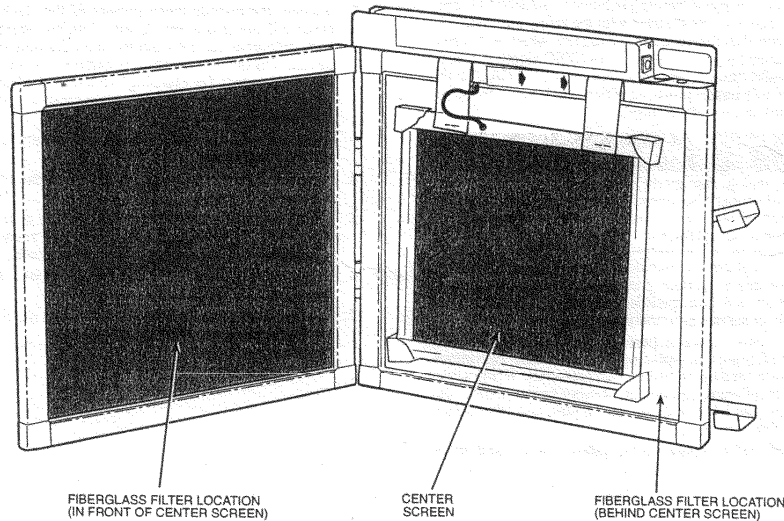

Fig. 2 — Filter Replacement
5. Place two new media pads on either side of the center screen. See Fig. 2. Be sure the pads fit squarely into the outside retainer screens. Discard old pads.